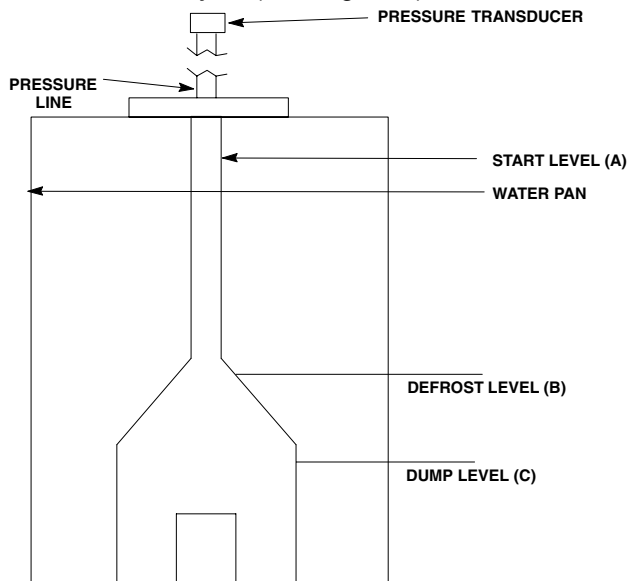

FIGURE 7
4. Water fill cycle (See Figure 7).